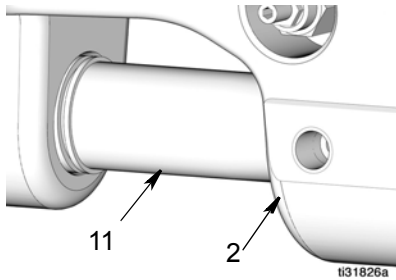

FIG. 17
3. Remove take up nut (14) from the pump base (2).
4. Pry the pump cylinder (11) out of the pump base (2) (FIG. 17).